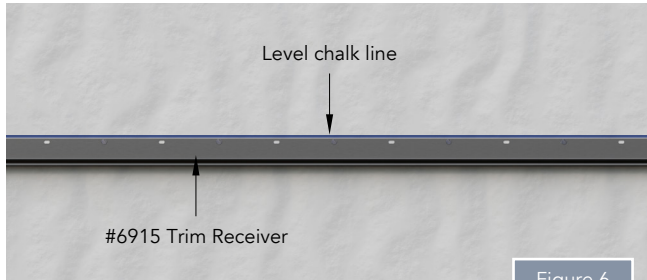

Figure 6
- Locate Trim Receiver 6915 at the transition point of the wall with the nailing hem up, and level. Fasten every nail slot. (Figure 6).